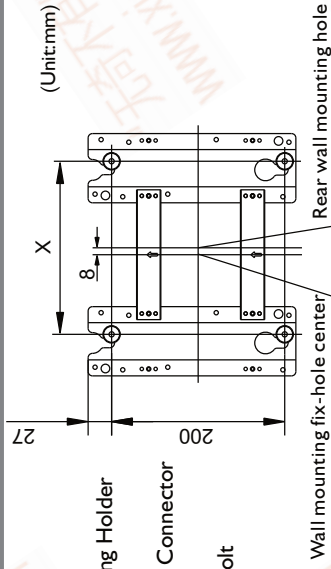

Fig.2
2. Due to the wall mounting fix-groove leaning to the right side, the whole unit will lean to right side after installation, please carefully measure the position of the holes you want to drill, refer to the parameters on Fig.2 when drilling the holes.
Note: The "X" in Fig.2 represents a data. It may be 200mm or 400mm or 600mm.